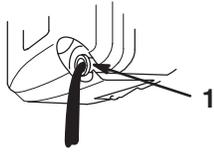

Figure 16
5. Tip the lawn mower onto its left side, allowing the oil to drain into an appropriate container (Fig. 16).